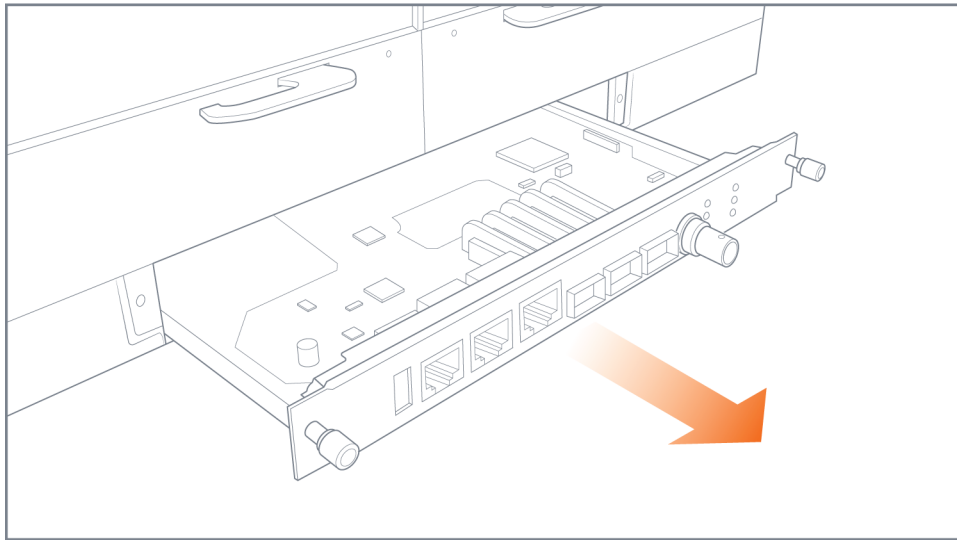

Figure 4-16: Extension Board Removal
4. Pull out the extension board as shown in Figure 4-16 on page 82.